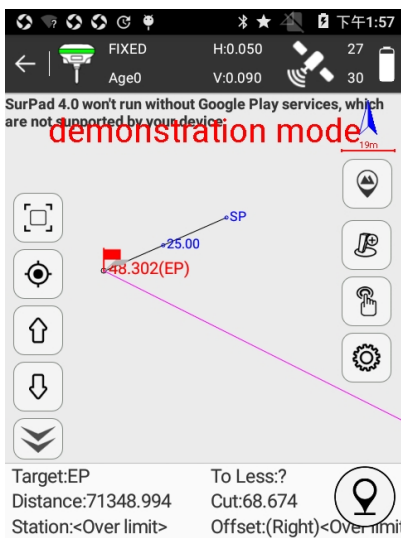

Figure 5.14-1
Press [Survey] -> [Curve Stakeout], select a line from Curve Stakeout list to stakeout as shown in Figure 5.14-1.
(3) Select target curve, press [OK], set Calculation mode (Calculate by integer number or Calculate by integer distance) and Interval, and press [OK] to return to Curve Stakeout list. In list it displays main points of the curve (QD、QZ、ZD、JD、HH) and coordinates and mileage according to interval settings.
(4) Select one point in Curve Stakeout list and press [OK] to enter stakeout interface as shown in Figure 5.14-1. According to interval settings, it displays mileage at the corresponding position of the line. When the distance between stakeout point and current point is less than 3 meters, it will enter into precise stakeout, and stakeout according to arrow direction and prompt in bottom status.
(5) Press  $\mathbb{B}$  to add stake on stakeout curve.
(6) The adjacent stakeout points in the points library can be switched automatically by  $\uparrow$  and  $\downarrow$  keys.